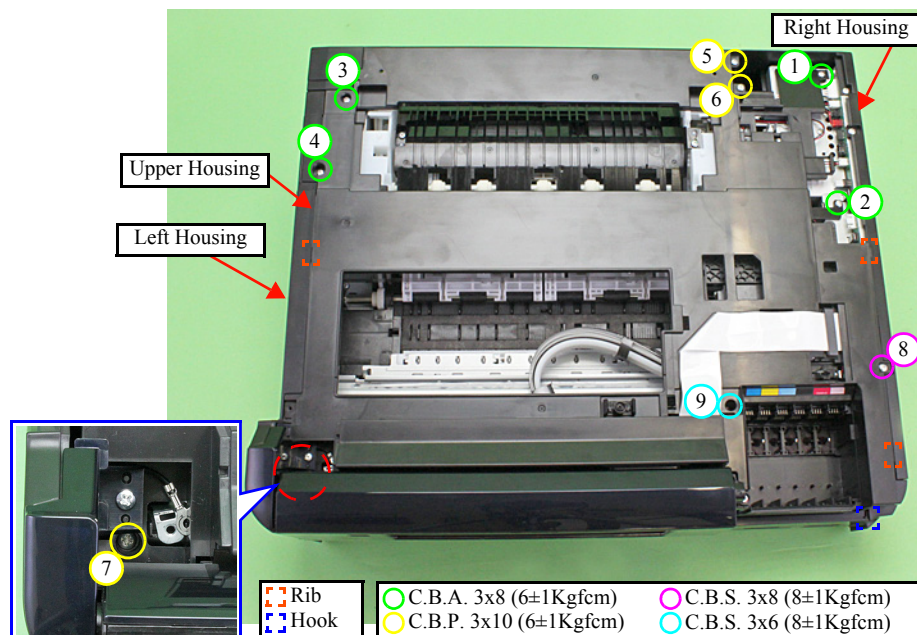

Figure 9-8. Removing the Upper Housing (2)
6. Release the ribs (x3) and hook (x1) of the Upper Housing. (See Fig. 9-8.)
- Insert the ribs (x3) of the Upper Housing to the inside of the Housing L/R when installing the Upper Housing. (See Fig. 9-8.)
- Tighten the screws in the order shown in Fig. 9-8.